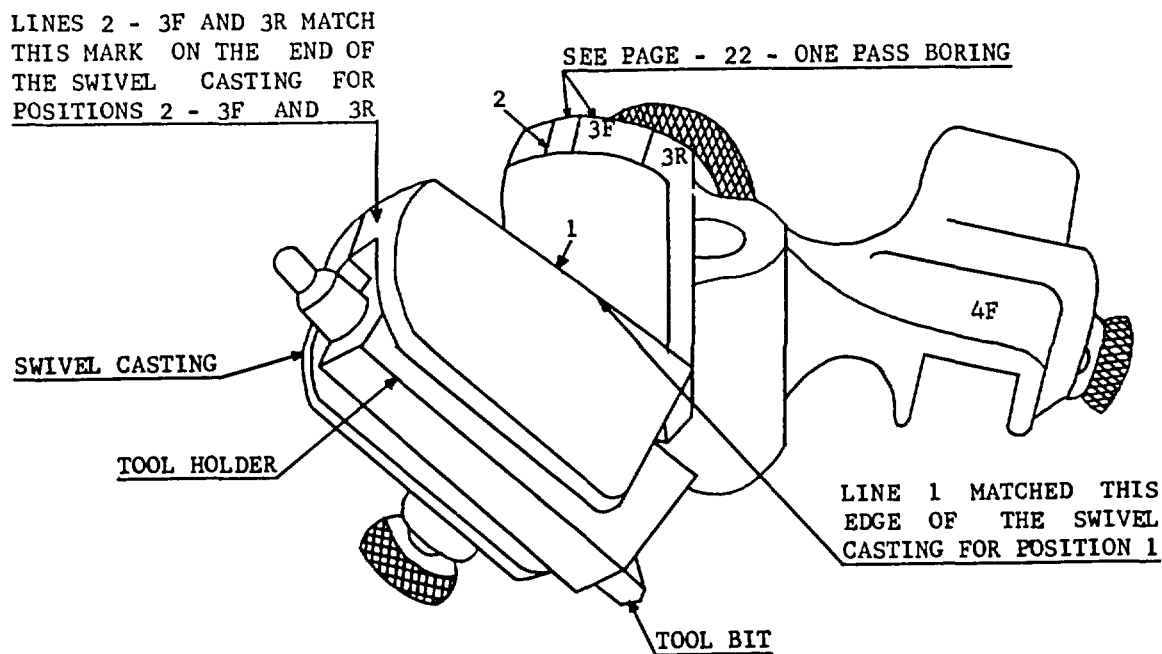

FIGURE 7
- 2- Then place the tool holder in the large lapping jig as shown in Figure 7 and set the swivel casting that holds the tool to position 1 as illustrated. Lap in this position until portion 1, Figure - 5 -, is smooth.